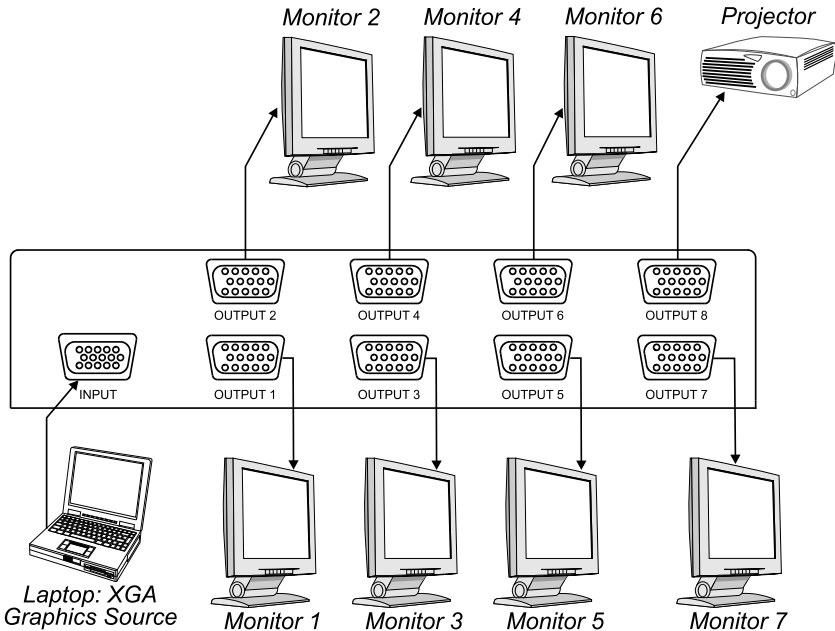

Figure 3: Connecting the VP-8 1:8 VGA/UXGA Distributor
To output the XGA signal from a laptop's graphics card to up to 7 monitors and a projector, using a **VP-8** (as the example in Figure 3 illustrates), do the following:
4. Connect the 12V DC power adapter to the power socket and connect the adapter to the mains electricity (not illustrated in Figure 3).